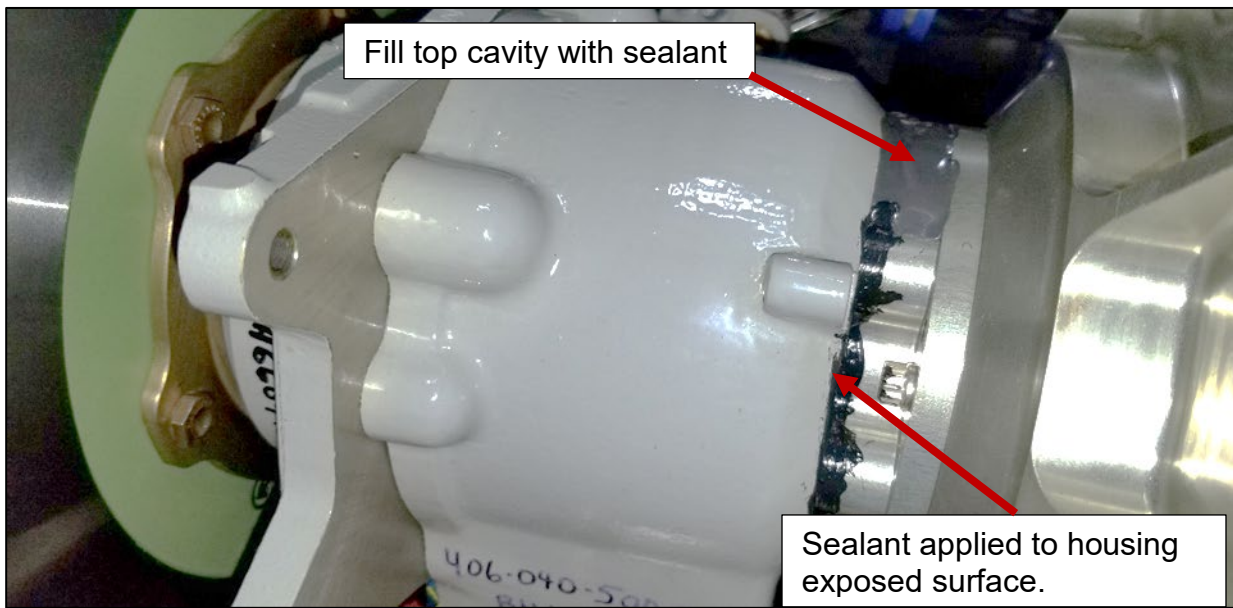

Figure 2 – Freewheel Housing with Sealed Housing Surfaces
7. Apply sealant (C-308) to the clean, oil free, bare metal surfaces of the freewheel assembly housing 406-040-500-107 (Figure 2). During application, it is acceptable for sealant (C-308) to smear onto the flange of the engine accessory gearbox.
8. Fill the top cavity of the engine accessory gearbox flange with sealant (C-308) (Figure 2), this to prevent the puddling of moisture.